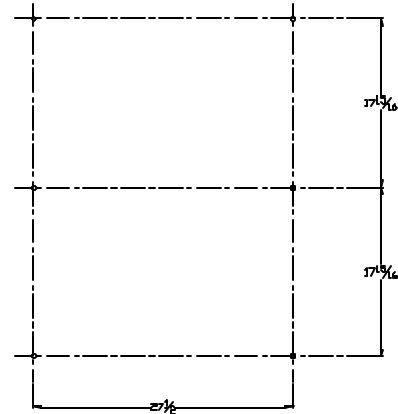

FIG. 2
4. Mark location of mounting holes on the surface to which unit is to be mounted (see **Figure 2** for hole pattern). Drill holes that are sized correctly for the hole pattern in mounting hardware.